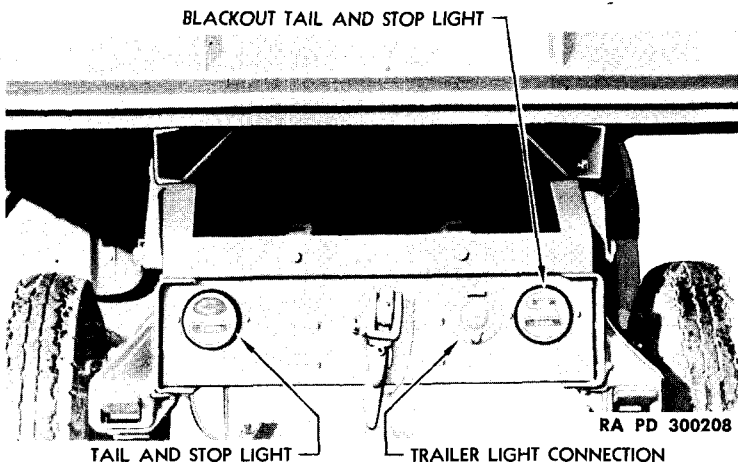

Figure 122—Galion Body Mounting
(1) Subframe mounting is all-steel welded, and is attached to vehicle by four steel plates.
(2) Galion body is attached to subframe by means of two heavy hinge brackets that bolt to body side and pivot on a cross bar fitted into the subframe (fig. 122).